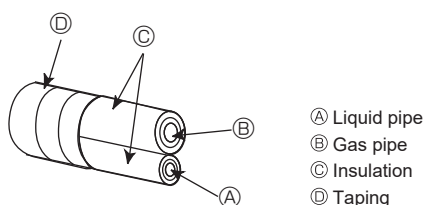
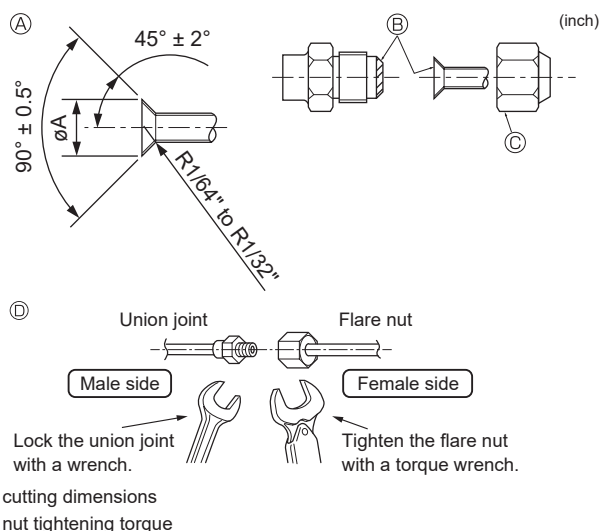

Fig. 4-5
Fig. 4-6
① (Fig. 4-6)
4.3. Connecting pipes (Fig. 4-5) (Fig. 4-6)
[Fig. 4-6]